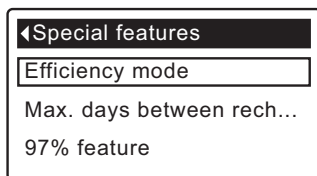

FIG. 73
5. Press the OK/MENU button to display the Special features menu (See Figure 73).
9. Press the OK/MENU button. The display will go back to the Special features menu (Figure 73).